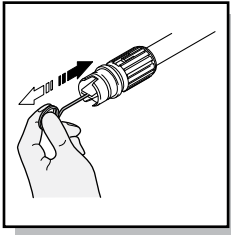

Fig. 20
- Using the nozzle tip cleaner provided (or an unfolded paper clip), insert the wire into the nozzle hole and move back and forth until debris is dislodged (Fig. 20). Back flush water through the nozzles using garden hose and highest pressure available (either standard water nozzle or use your thumb over the nozzle to create water pressure for back flush).